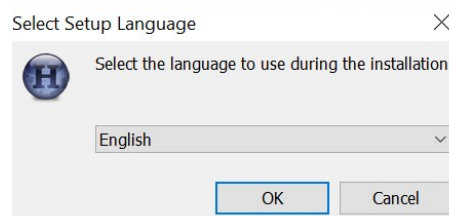

Figure 11. Selecting Setup Language
1. English should be the default language, click OK (Fig. 11).